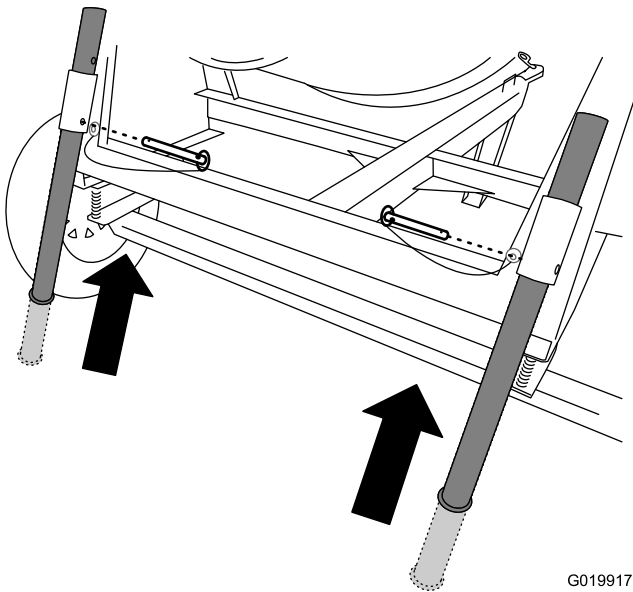

Figure 20
2. Pull the clevis pin out of the rear stabilizer leg and the bracket (Figure 20).
3. Slide the stabilizer leg up in the bracket, and align the pin hole of the bracket with the lower hole in the stabilizer leg (Figure 20).
4. Push the clevis pin through the hole in the bracket and the stabilizer leg (Figure 20).